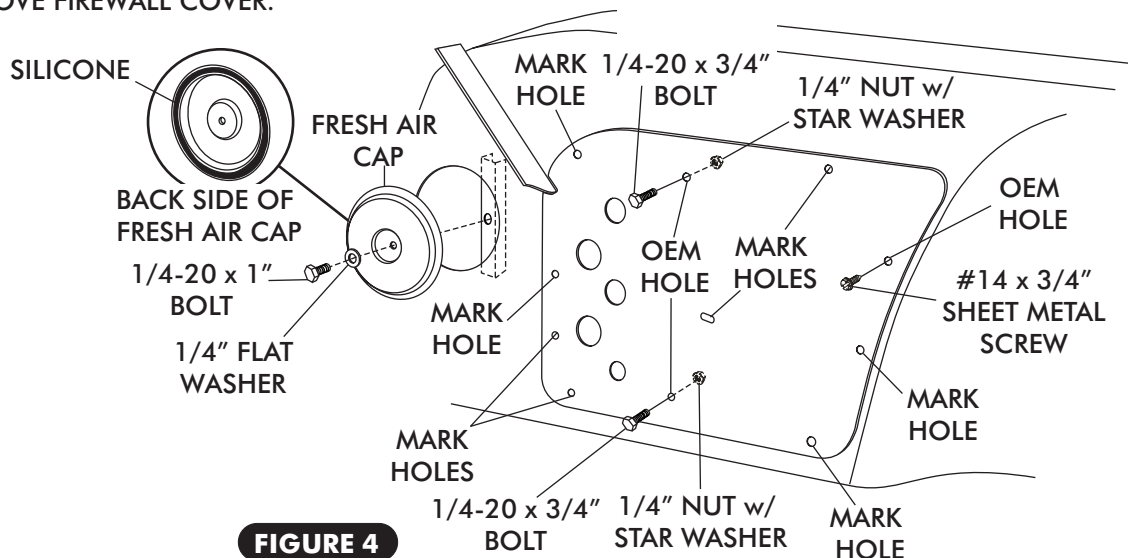

FIGURE 4
- APPLY A 1/4" BEAD OF SILICONE AROUND THE BACK SIDE OF THE FRESH AIR CAP AS SHOWN IN FIGURE 4, BELOW.
- ATTACH FRESH AIR CAP TO FIREWALL USING A 1/4-20 x 1" BOLT AND WASHER. SEE FIGURE 4 BELOW.
- PLACE FIREWALL COVER ON FIREWALL AND SECURE USING #14 x 3/4" SHEET METAL SCREW AND (2) 1/4-20 x 3/4" HEX BOLTS w/ 1/4" NUT w/ STAR WASHER AS SHOWN BELOW.